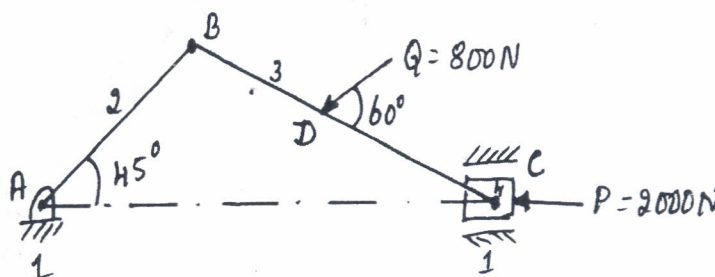

Fig Q4
- 4 Determine the various forces on the links and couple T_2 for the mechanism shown in Fig Q4.